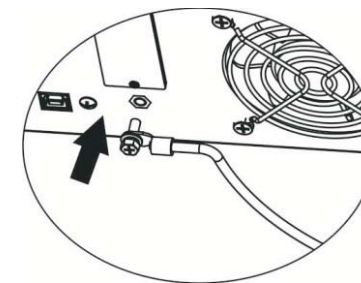

Figure 5.3
Step 6: For safe operation, please use one more wire with ring terminal to connect grounding. Refer to Figure 5.3.